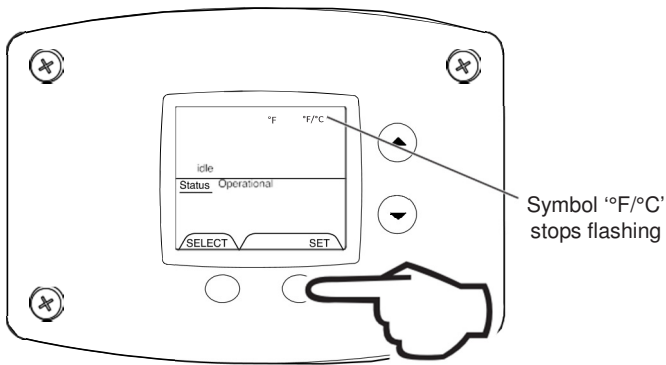

Fig. 26
- Press 'SET' button to confirm °F or °C format. F°/ °C will stop flashing. Setpoint display will appear in the format selected (°F or °C) in 10 seconds (Fig. 26).